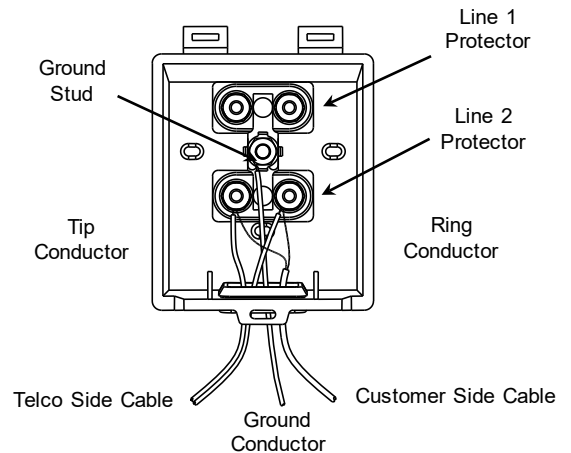

Figure 1
- 3.1.2 Slide the surge protector ground clip under the nut and washer. Tighten down the nut (Figure 1).
- 3.1.3 Ground the module using a No. 6 AWG solid copper insulated ground wire. Connect one end of the ground conductor to the appropriate ground stud and the other end to an appropriate ground source (Figure 1).